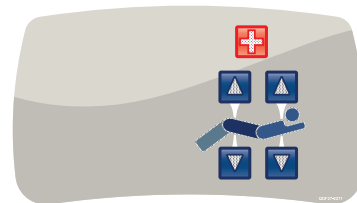

**Figure 102: Installing the optional patient control pendant**
1. Slide the pendant into the molded pendant holder inside the foot end siderail handle (A) (Figure 102 on page 105).
2. Plug the pendant cable connector into the pendant connector that is located behind the foot end siderail (B) (Figure 102 on page 105).